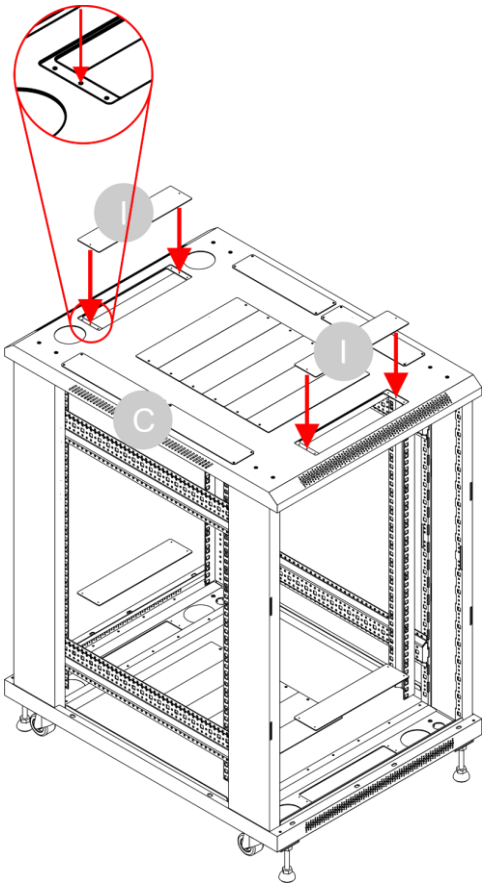

Fig. 33
- 17) Put the 2 **metal plates (I)** on top of the holes of the **top plate (C)**, as shown in Fig. 33.